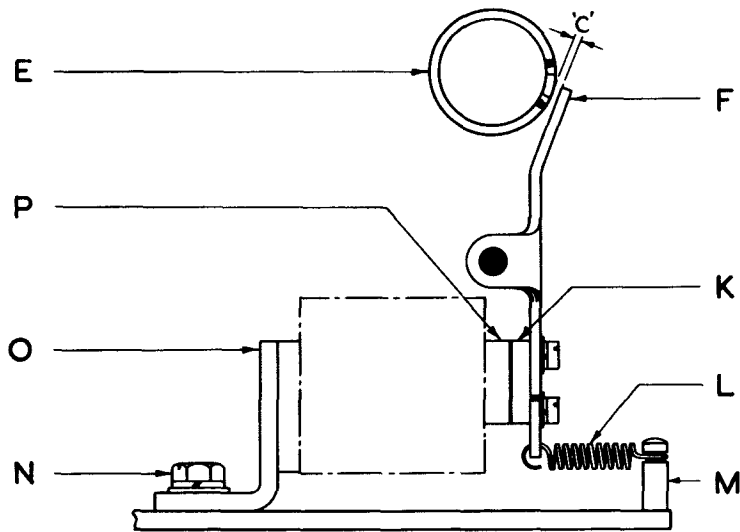

FIG. 3
8. Remove spring L, Fig.3, from anchor pin M. Unsolder the connections to the transmitter contact blades, taking note of the correct method of reassembly. Remove the four screws which secure the contacts assembly to the unit frame, and dismantle the assembly, taking note of the correct method of reassembly.